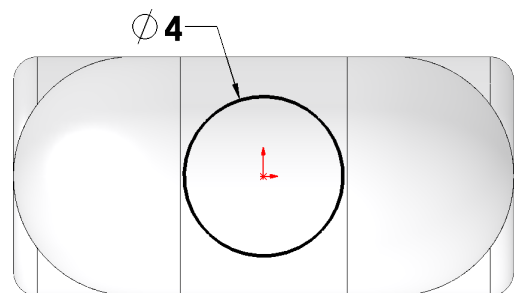

Fig. 32
Step 3. Click **Circle**  (S) on the Sketch toolbar.
Step 4. Sketch a circle at **Origin** , **Fig. 32**.
Step 5. Click **Smart Dimension**  (S) on the Sketch toolbar.
Step 6. Dimension a **diameter 4**, **Fig. 32**.